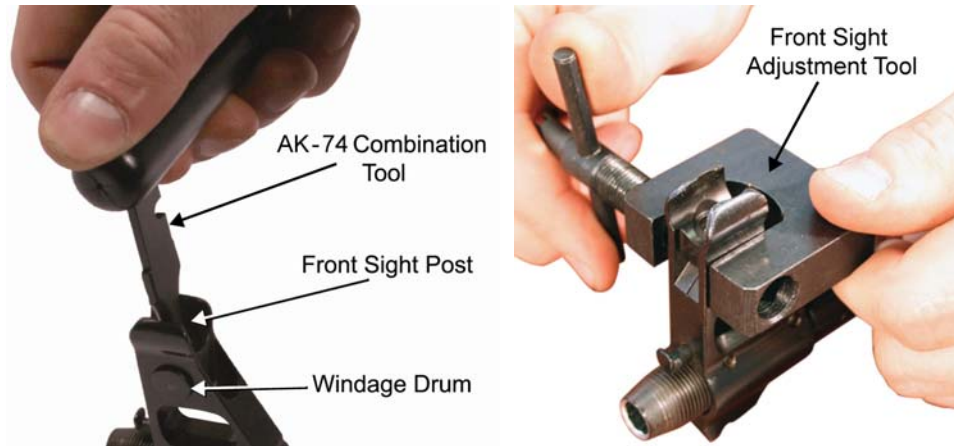

Figure 3. Using the Front Sight and the AK-74 Front Sight Adjustment Tool.
3. **Front Sight.** Refer to Figure 3